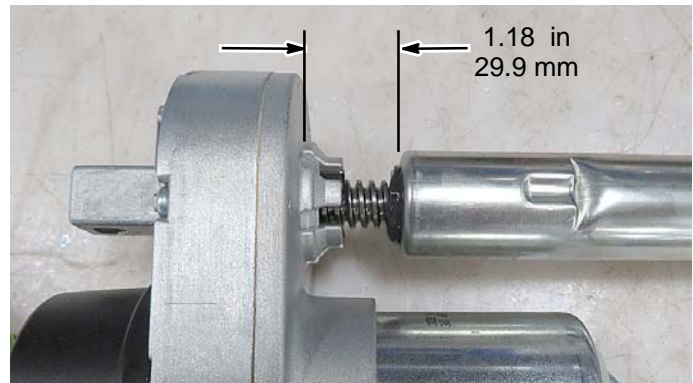

Fig. 1
4. After the actuator is fully retracted, reset the factory set point by turning the tube by hand to the specified measurement shown (Figure 1).